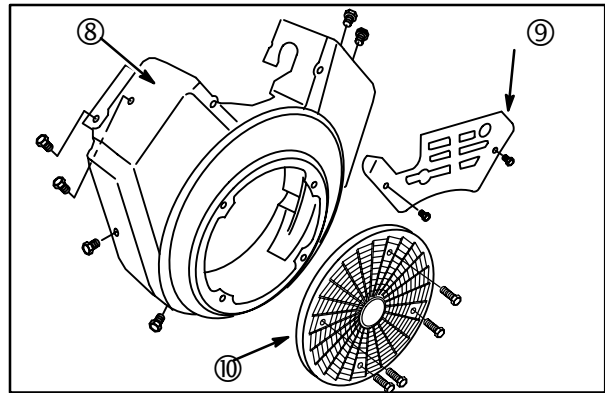

Fig. 36
1. Install blower housing (8), **Fig. 36**.
2. Install carburetor cover (9).
3. Install rotating screen (10).